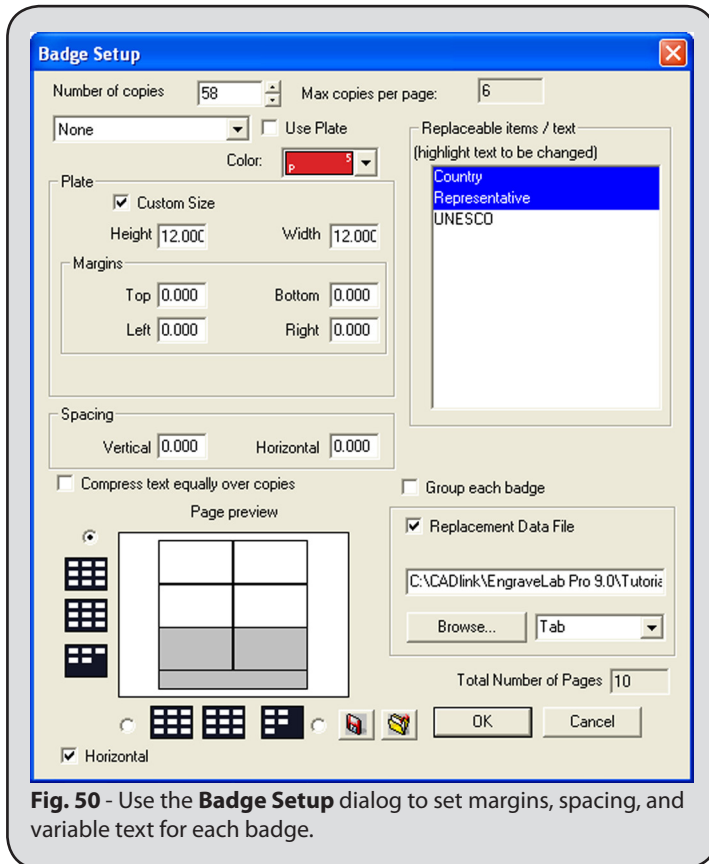

Fig. 50 - Use the **Badge Setup** dialog to set margins, spacing, and variable text for each badge.
2. Choose **Layout** menu >> **Badges** to open the **Badge Setup** dialog (Fig. 50).